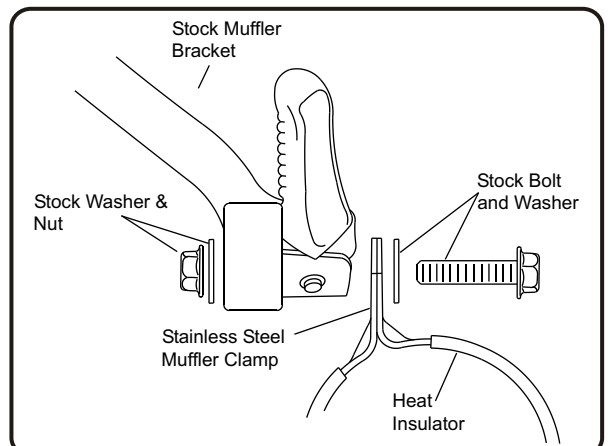

Fig. 8
(Note direction of clamp in Fig.8)
- 17 Mount clamp to stock muffler bracket using stock bolt, washers and nut. (See Fig. 8)